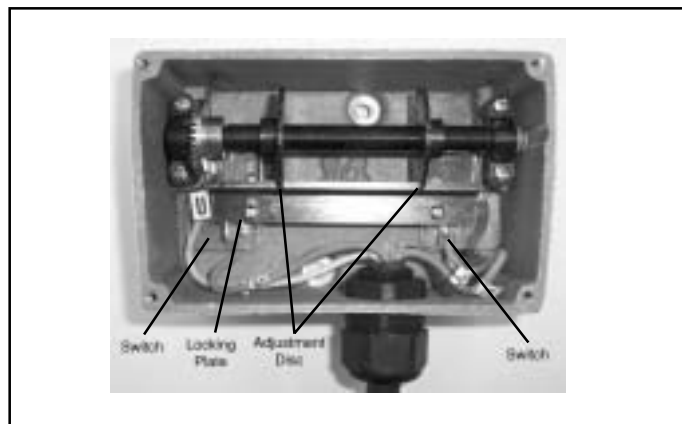

Figure 7-2. Screw-Type Limit Switch Adjustment
- (1) Remove four cover screws and lift off enclosure cover.
- (2) Operate hoist to raise lower block to upper limit of desired travel. Allow about 2" for drift.
- (3) Loosen the two cam clamping screws on top of cam assembly one half turn each.
- (4) Locate cam adjusting pinion "A" (upper) by referring to the indicating arrow on insulation shield. Depress this screw with a screwdriver until pinion teeth mesh with gear teeth on top cam. Rotate cam in direction cam turns when hoisting by turning screwdriver until cam operates switch. White marker on gear teeth is directly over nylon roller that trips switch. When top operating cam has been adjusted so the roller has tripped switch, adjustment of upper limit is complete.
- (5) Operate hoist and run lower block to lower limit of desired travel. Allow approximately 6" for drift. Make certain that at the lowest point of hook travel a minimum of 1 turn of wire rope remains on rope drum.
- (6) Locate cam adjusting pinion "B" (lower) by referring to the indicating arrow on insulation shield. Depress this screw with a screwdriver until pinion teeth mesh with gear teeth on lower cam. Rotate cam in direction cam turns when lowering by turning screwdriver until cam operates switch. White marker on gear teeth of lower cam will be directly over nylon roller that trips switch and adjustment is complete.
- (7) Retighten cam clamping screws, fold down insulating shields and replace cover.
- b. This limit switch has a rotary screw driven by a gear reduction which is coupled to the end of the drum shaft. Adjustment discs operate the contacts of separate switches; one for the hoisting circuit and one for the lowering circuit. The switch assembly must be wired in accordance with the appropriate wiring diagram, which is shipped with the hoist. Instructions for adjusting limit switch are inside switch cover and are repeated below (see Figure 7-2).